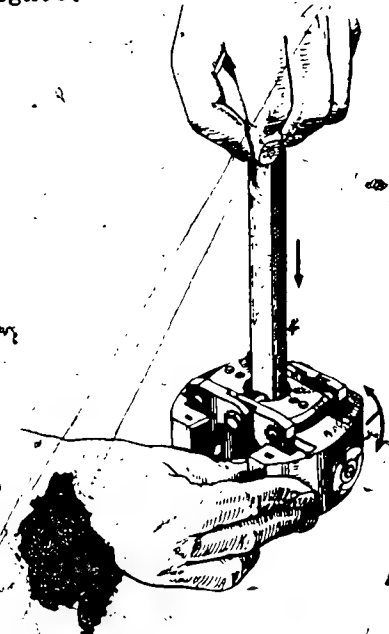
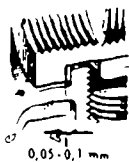

Fig. 7 Testing the play of flyweights
Fig. 8 Axial clearance of governor unit
4. Insert coupling bolt (24) temporarily. Place driving end of the flyweight assembly on its flat surface. Exerting pressure on the coupling bolt, compress idling springs, until the successively harder stop formed by the maximum speed control spring offers resistance. Try turning the flyweights both ways round the pivot pin (see Fig. 7). Both weights should fit evenly secured and without play. If a flyweight can be moved, either the inner spring plate (36) or the compensating washer on one side should be replaced for one of different size.
5. Insert key in shaft end and push driver (25) on to it; mount the articulation piece of the governor without rubber buffer (29), insert lock washer (27). Use spanners EF 8101 D and E to screw on round nut (28) with compensating washers (26). Care: Never use one-armed spanners, as they endanger the conical shaft end. (When using flat lock washers, the tightening torque should be 4 to 5 mkg (about 30 to 35 ft lb)).
6. Check that the axial play measures from 0.05 to 0.1 mm, so that the flyweight assembly turns readily with camshaft arrested; otherwise change compensating washers (26) (see Fig. 8).